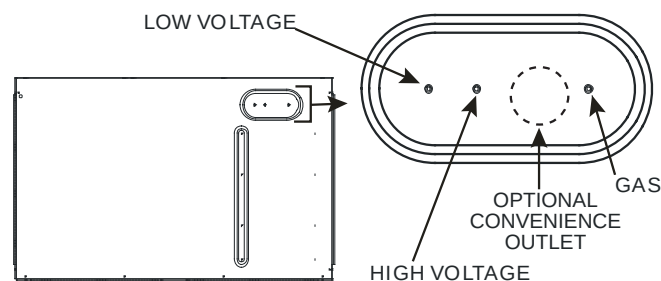

Fig. 1 - 3 - 6 Ton Basepan
Each unit is equipped with a raised (embossed) surface in the basepan. This area is located in the compressor compartment (outdoor section) of the unit (see Figure 1). The embossment of the basepan contains three (3) dimples for locating cutouts. Holes can be field cut in the embossed surface so that high voltage power, control wires, and gas connection can be routed through the roof curb basepan